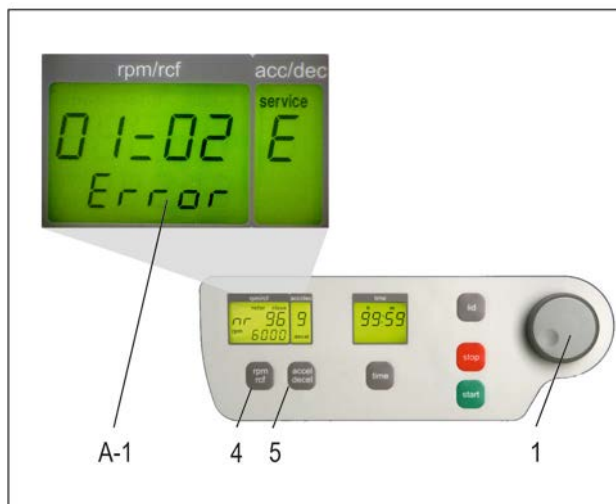

Figure 3
The list of the last 99 error messages can be looked over by pressing the key „rpm/rcf“ (4) and leaf through it by the potentiometer(1). The respective error codes appear in the display „rpm/rcf“ (A-1) (see figure 3). The first two numbers indicate the appeared errors ongoing from 00 to 99, the last two numbers indicate the error code. Please look up in "table 5: error messages" (See APPENDIX VI).